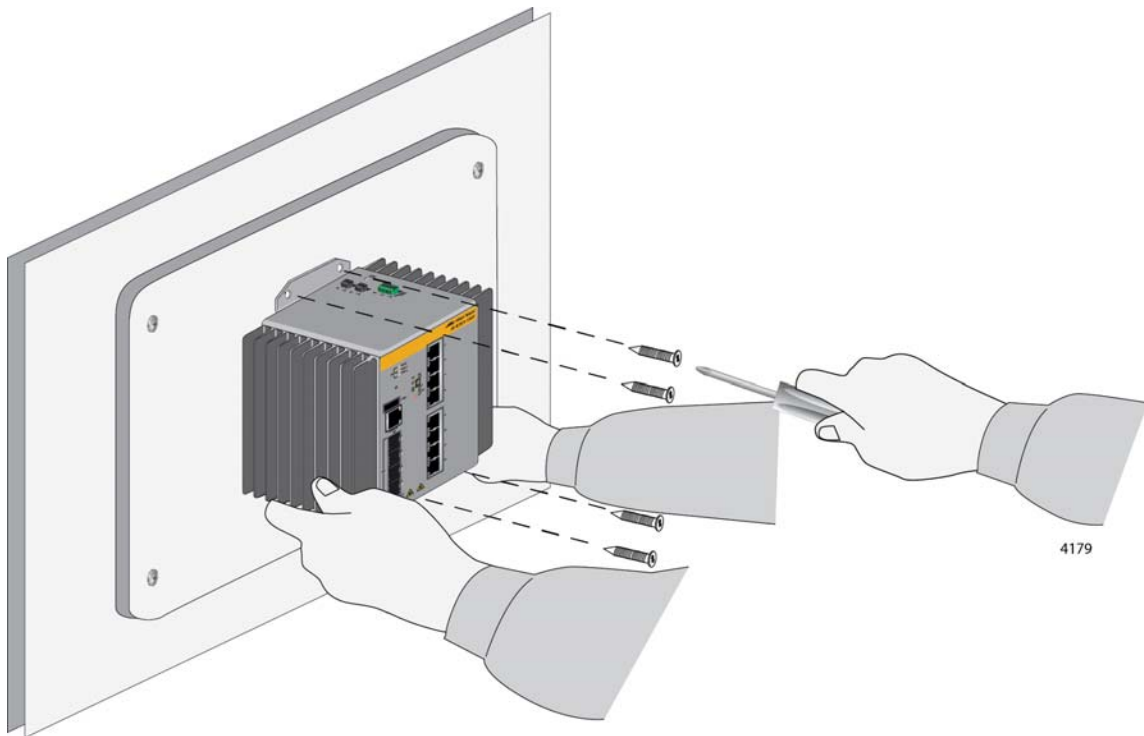

Figure 22. Attaching the Switch to the Plywood Base
3. Have another person hold the switch on the plywood base on the wall while you secure it with four screws (not provided). Refer to Figure 22.
- ❑ The switch must be oriented as shown in Figure 22. Do not install the switch horizontally or upside-down.